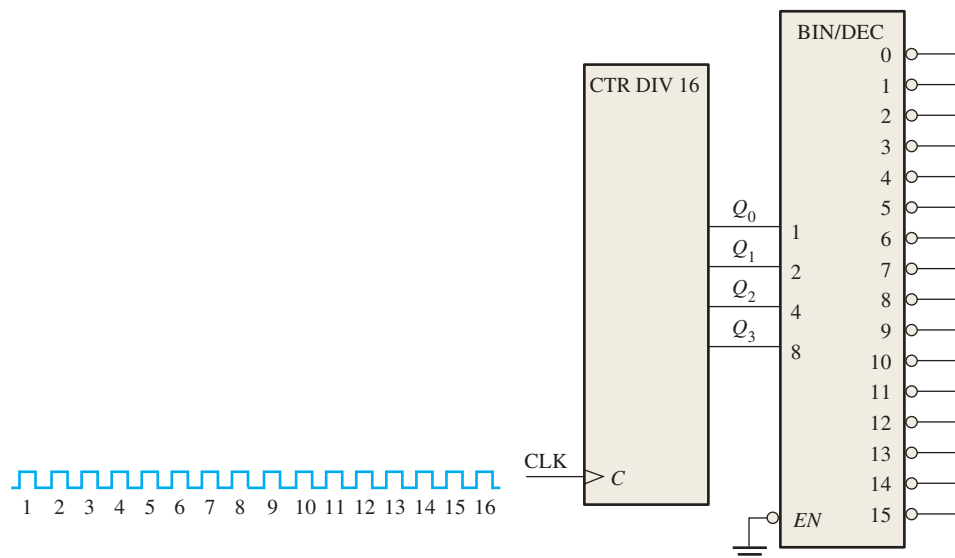

FIGURE 9-77
28. For the 4-bit binary counter connected to the decoder in Figure 9-77, determine each of the decoder output waveforms in relation to the clock pulses.
29. If the counter in Figure 9-77 is asynchronous, determine where the decoding glitches occur on the decoder output waveforms.
30. Modify the circuit in Figure 9-77 to eliminate decoding glitches.